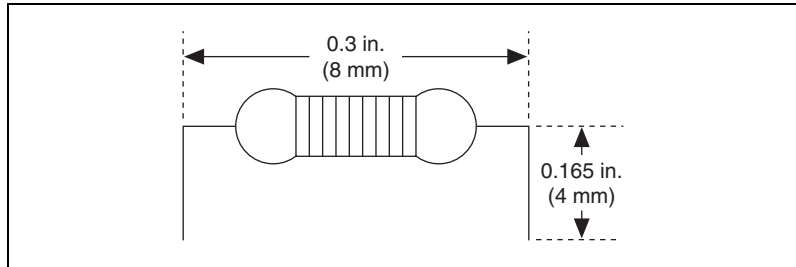

Figure 4-11. Preparing Lead Wires of Replacement Resistors
- Cut and bend the lead wires of the resistors you want to install. Refer to Figure 4-11 for an example.